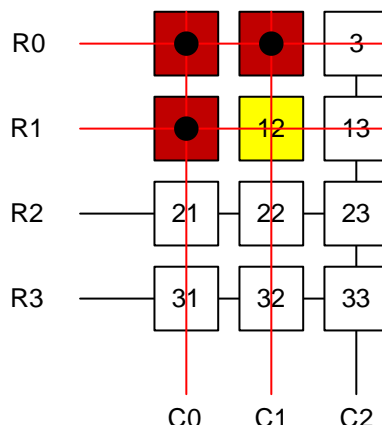

Figure 29. Incorrect 3 Button Combination
In Figure 29, keys 1, 2, and 11 are pressed, which causes a ghosting issue. Since R1 becomes pulled to ground through key 1 (which is pulled through key 2 when C1 is transmitting a low), when C1 is driving low, the TCA8418E will see a low signal at both R0 and R1. This will falsely trigger key 12 as being pressed (the key highlighted as yellow).